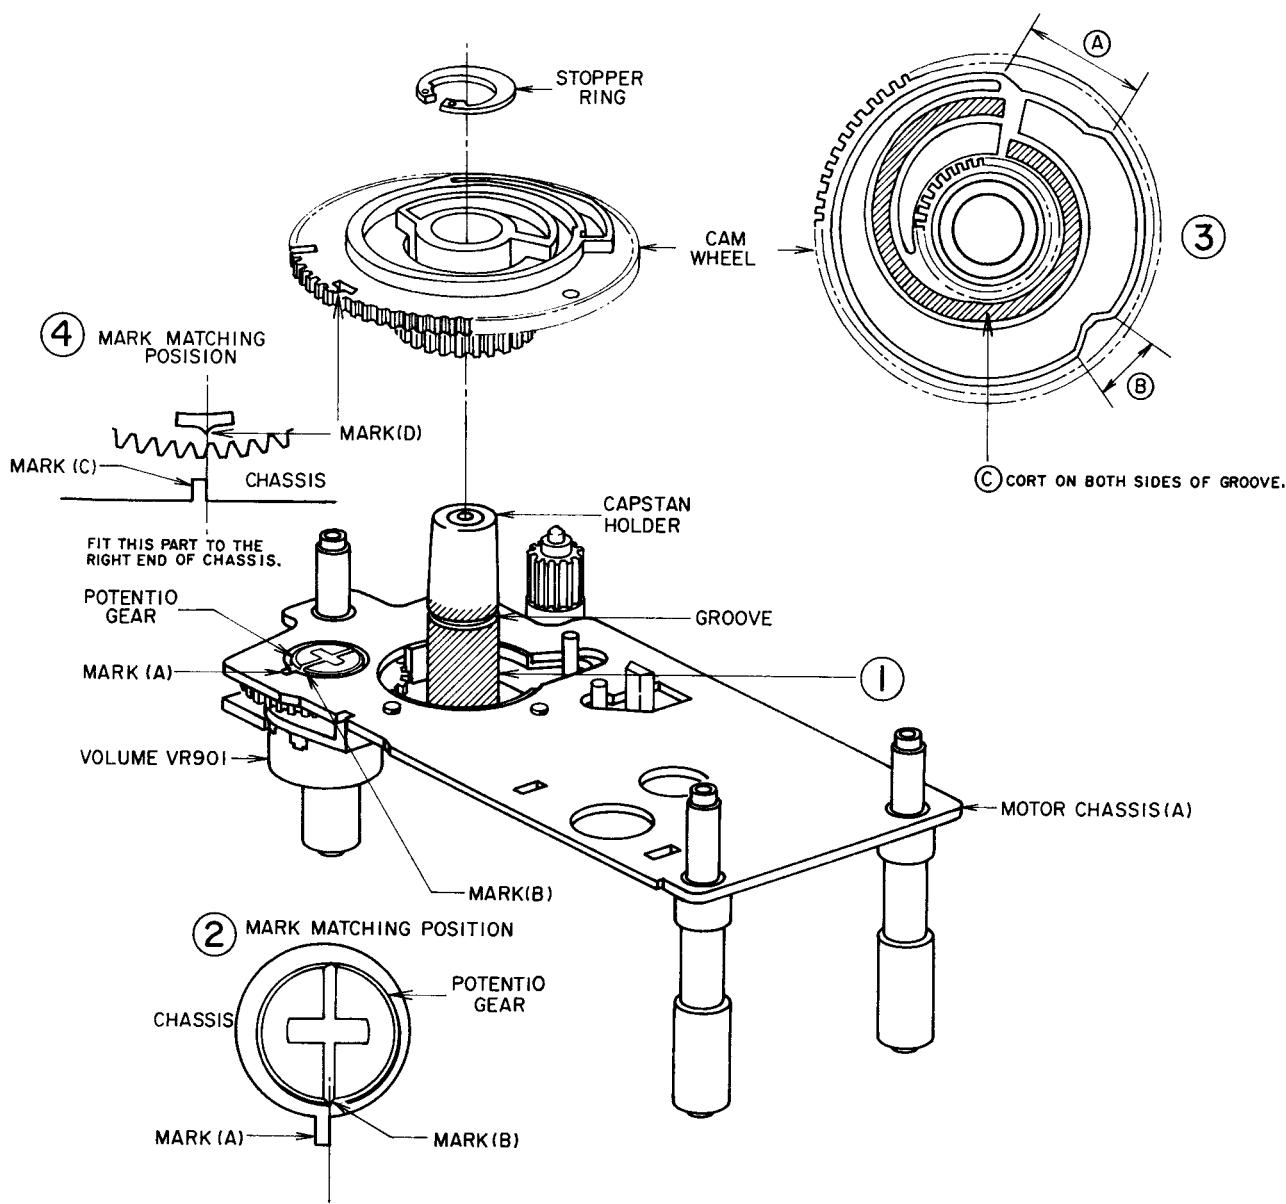

Fig. 7
Apply Molybdenum coat on the area of 360° from the bottom to the upside 2 mm of groove as shown in the figure. (Fig. 7-①)
Fit the right end of Mark (A) to the center of Mark (B) as shown in the figure. (Fig. 7-②)
- 3) Apply Molybdenum coat on ④, ⑤ and ⑥ shown in Fig. 7-③.
meshed properly). When the cam wheel is set properly, fit the center of Mark (D) to the right end of Mark (C). (Fig. 7-④)